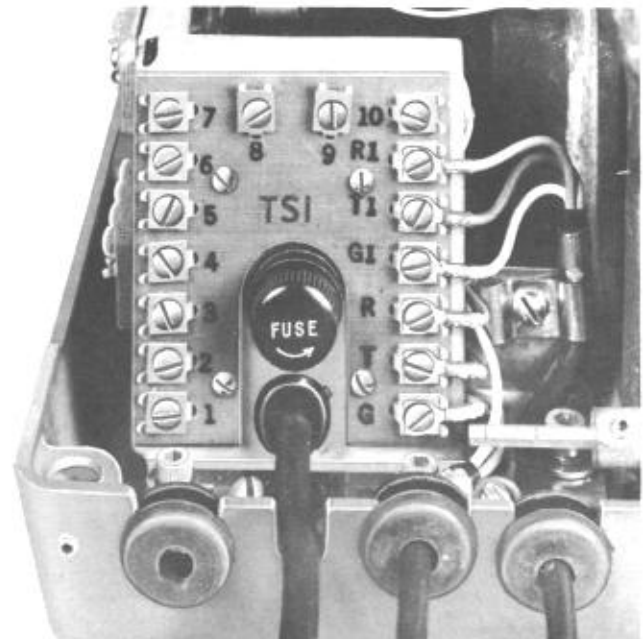

Fig. 9 — AC Fuse Holder and TS1
- 1.13 Fig. 9 identifies the ac fuse holder and TS1.